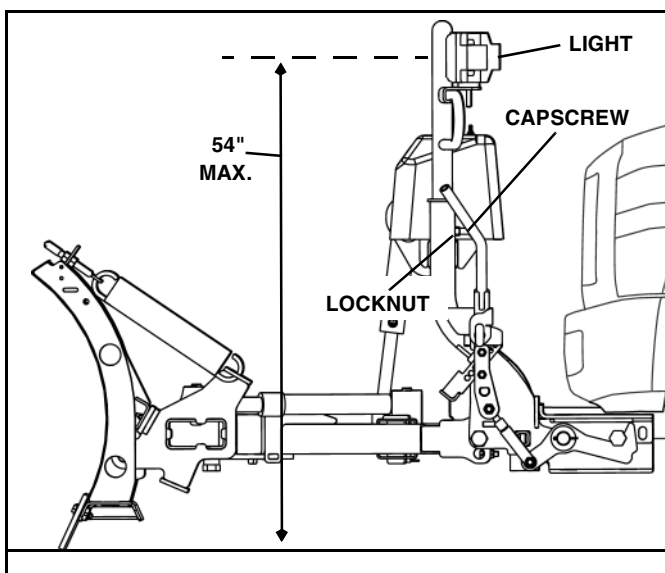

Figure 1-23
32. The height of the light bar in the LLLB is adjusted to one of three possible positions. Position the light bar so that center of the lights is 54" maximum off the ground when plow is fully lowered to the ground. The lights should clear the plow when it is fully raised. (See Figure 1-23).